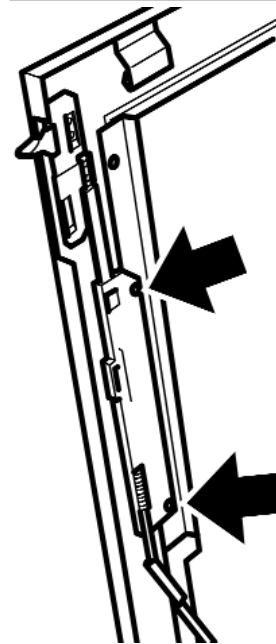

Figure 26. Slider control removal (Fascia may differ from that shown)
2. Detach the slider control from the fascia by removing two screws (See figure 26).